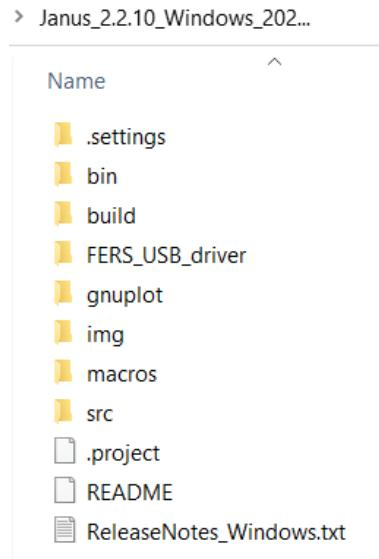

Fig. 11.14: View of the Janus 5203 software folder.
2. Extract the files and enter the "bin" folder (see Fig. 11.14) inside the Janus 5203 software folder.